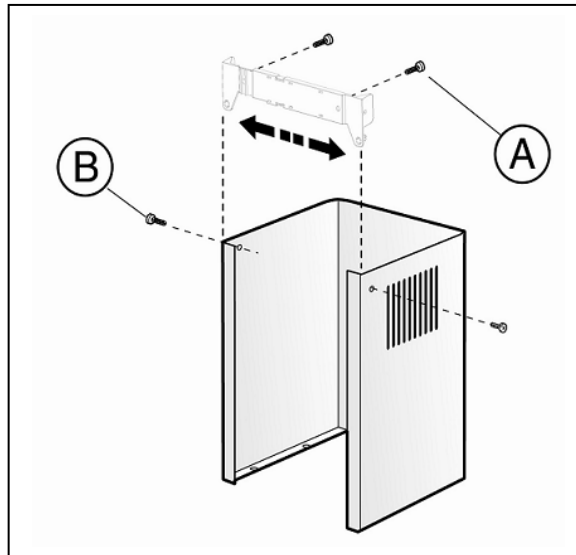

Fig 3
Step 3: To fix the two-piece chimney cowling, firstly ensure that the power supply has been placed within the dimensions of the flue cowling. Place the support bracket (A) for the upper section of the cowling on the wall at ceiling height (Fig 3). Ensure that the upper flue bracket is level and centred over the canopy. Fix bracket (A) firmly to the wall at the desired height.